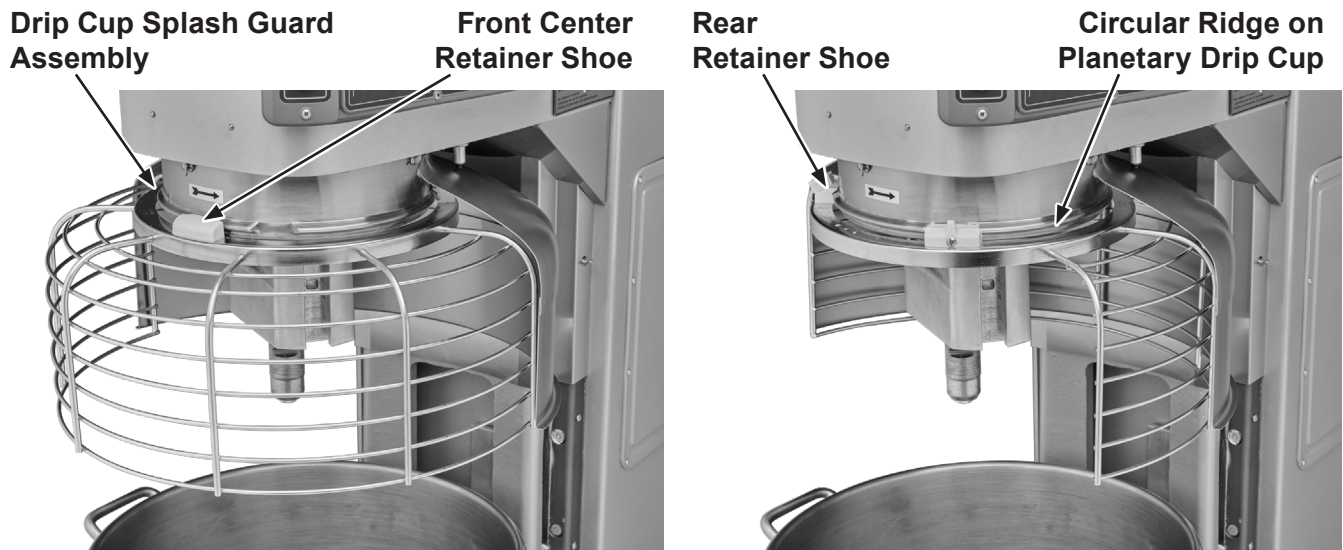

Fig. 14
6. Return the wire cage to the front-center position (Fig. 14).
WIRE CAGE (Fig. 14)